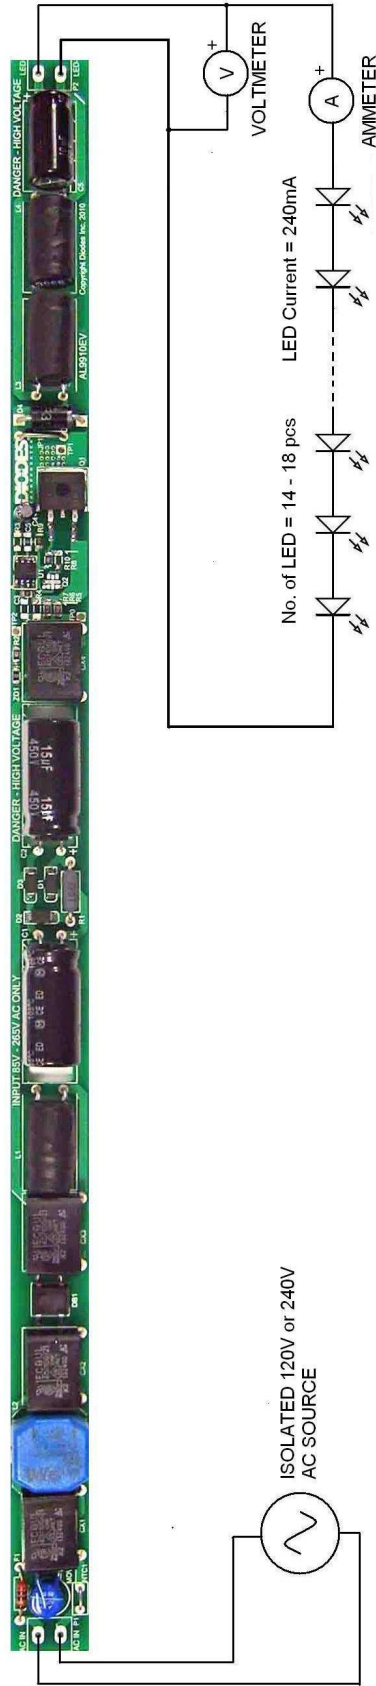

Fig. 1 AL9910EV5 evaluation board connection diagram
5. Connect a voltmeter & ammeter according to the connection diagram in Figure 1 if LED current and voltage measurements are required.